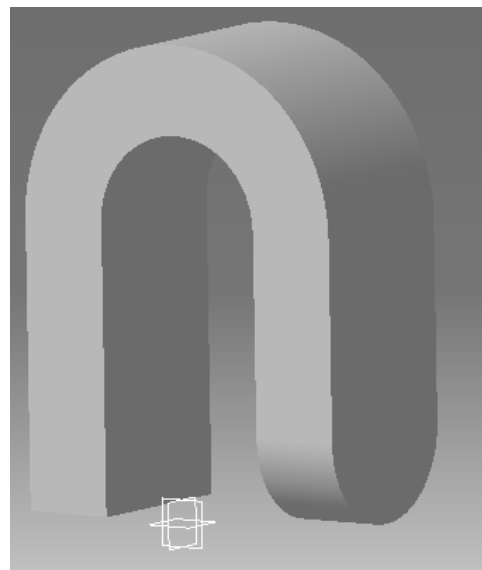

**Figure 2.5**
2.11 Select the front and back surfaces as the **Faces to Fillet** on the “Top U-Joint”, as shown in Figure 2.5